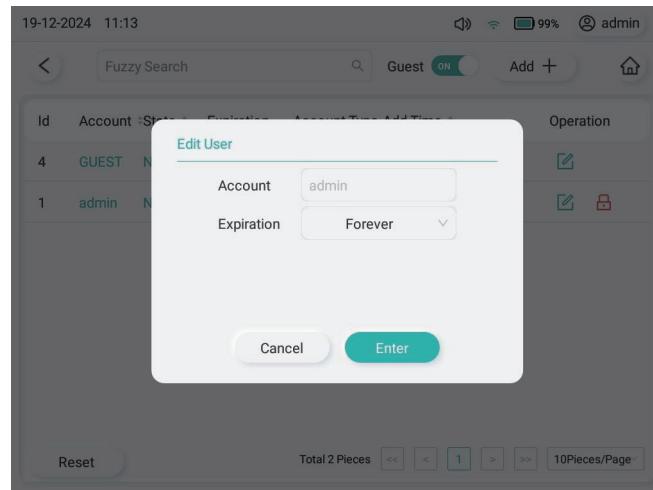

Figure 5-6 Modify another user's information
- 1) Click on  at the end of a user's row to modify the user's information. (Figure 5-6)